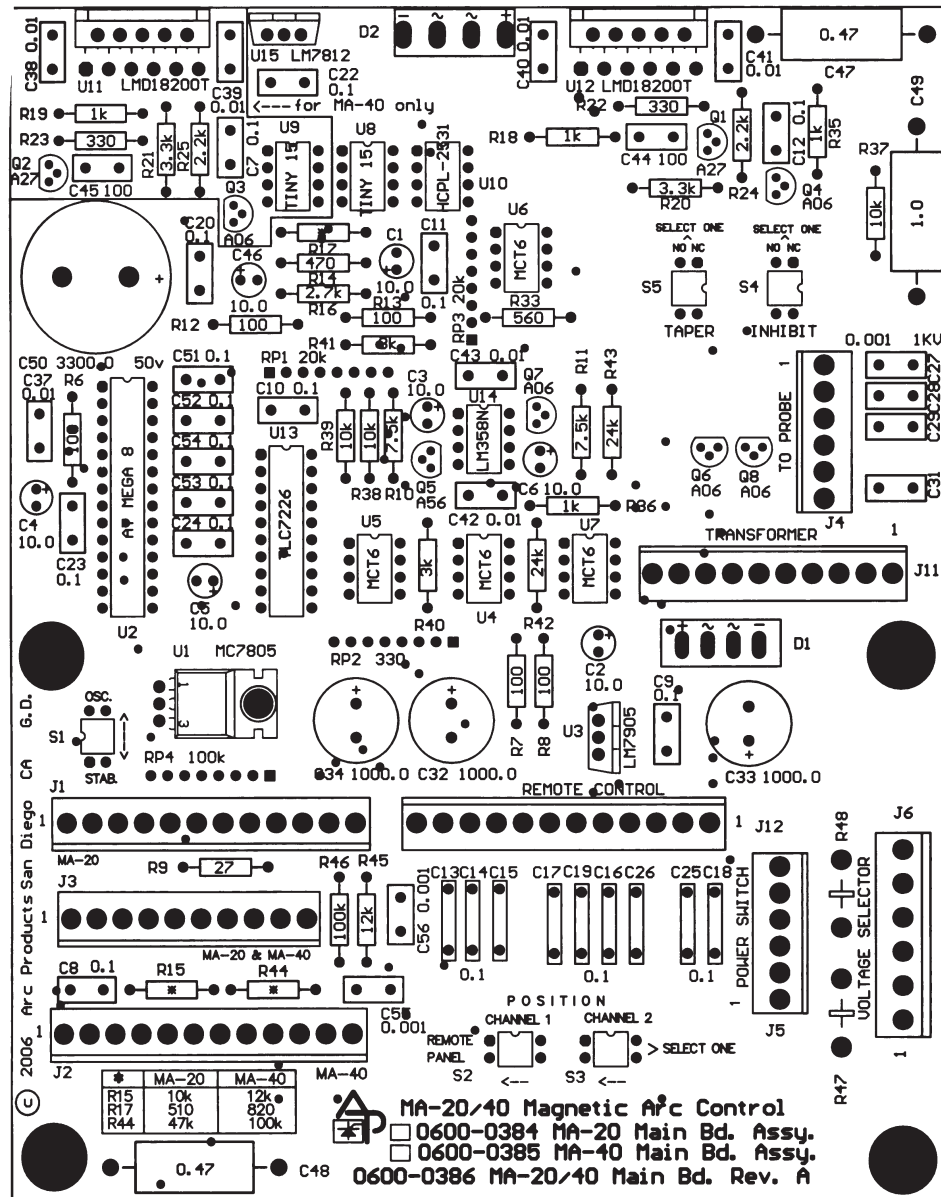

FIGURE 25 - MA-40 MAIN BOARD LAYOUT
- With the power Off, set the Frequency and Amplitude controls to their fully counter clockwise positions ("000" on the dial) and set the Position controls at its center position ("500" on the dial). Open the controller door and find the STAB/OSC DIP switch on the main board, see Figure 25 - MA-40 Main Board Layout. Set the STAB/OSC switch in the Oscillate (OSC) position.